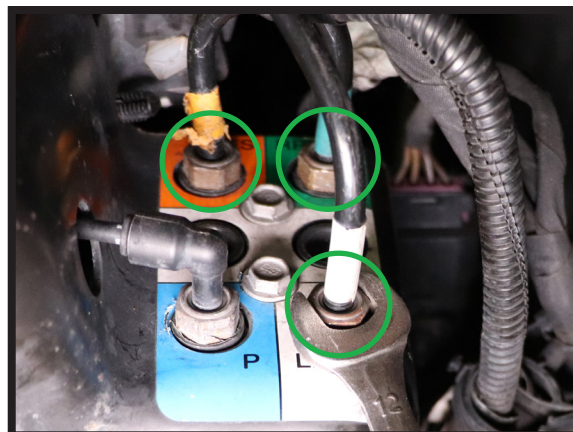

FIGURE 42
12. RECONNECT THE THREE (3) AIR LINES TO THE VALVE BLOCK. (FIGURE 42)